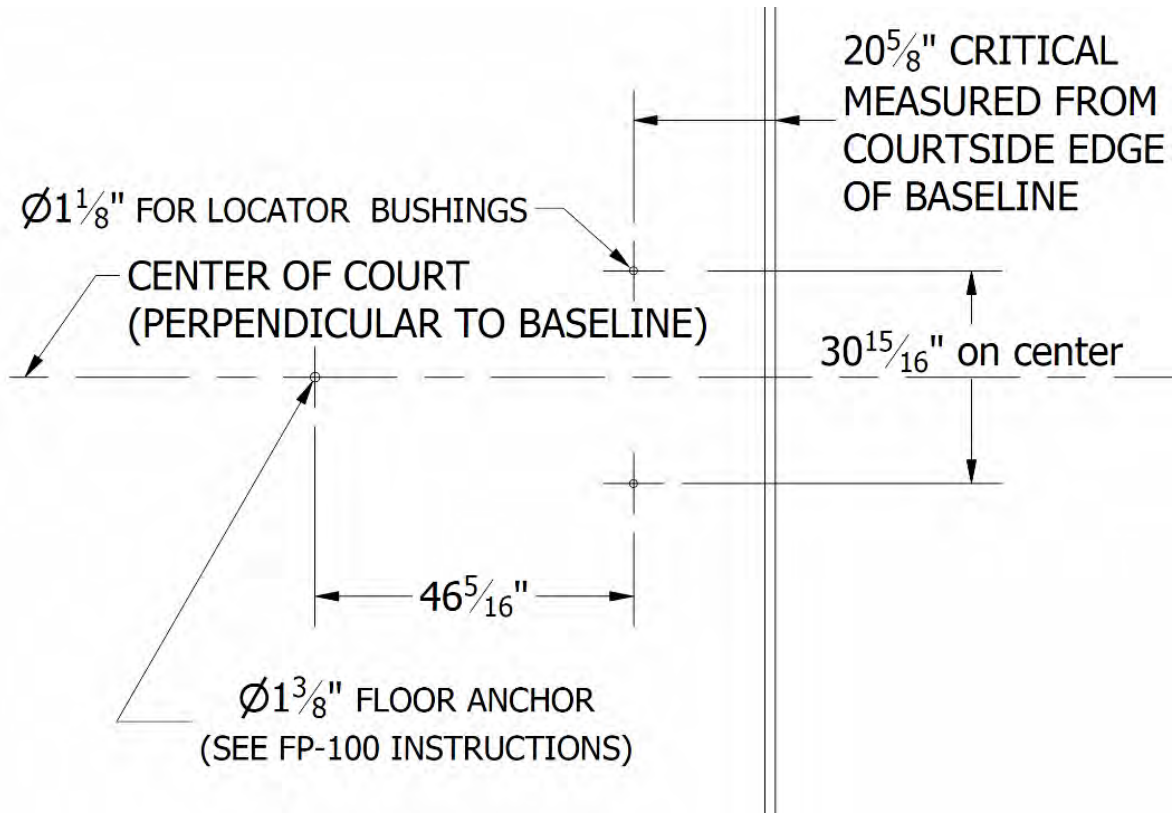

Figure 12-1: PBEL54 Locating and anchor holes locations.
- a. PBEL54 (54" overhang): refer to Figure 12-1